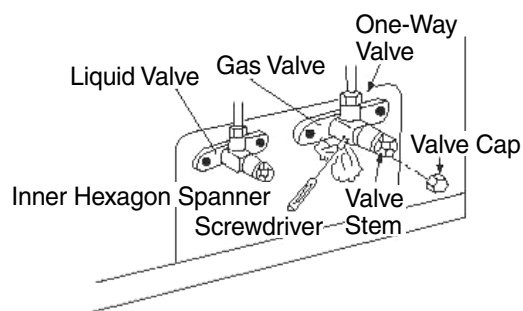

Fig.9.13
8. Fully open the spools of the liquid valve and the gas valve (refer to Fig. 9.13).